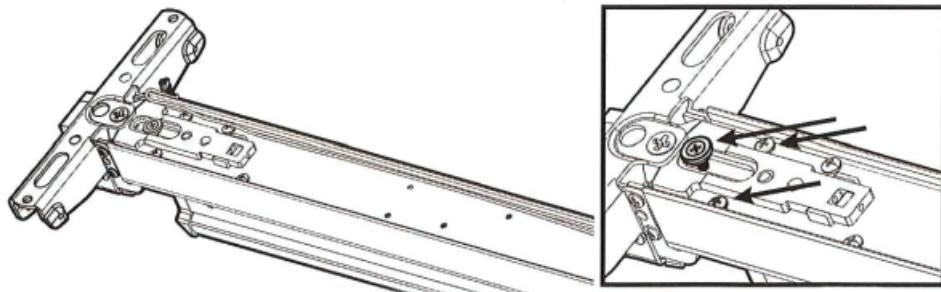

Figure 2 Three-screw removal (Mechanical base device)
- Remove the three (3) screws holding the trim slide and latch assembly in place. See Figure 2.
— Mechanical with Option "S" carrier assemblies require the removal of three screws. See Figure 2.
— Mechanical with Option "B" carrier assemblies require the removal of three screws. See Figure 2.
— Mechanical with Option "O" devices require the removal of the three screws. See Figure 2.
— Mechanical with Options "S" & "B" devices require the removal of three screws. See Figure 2.